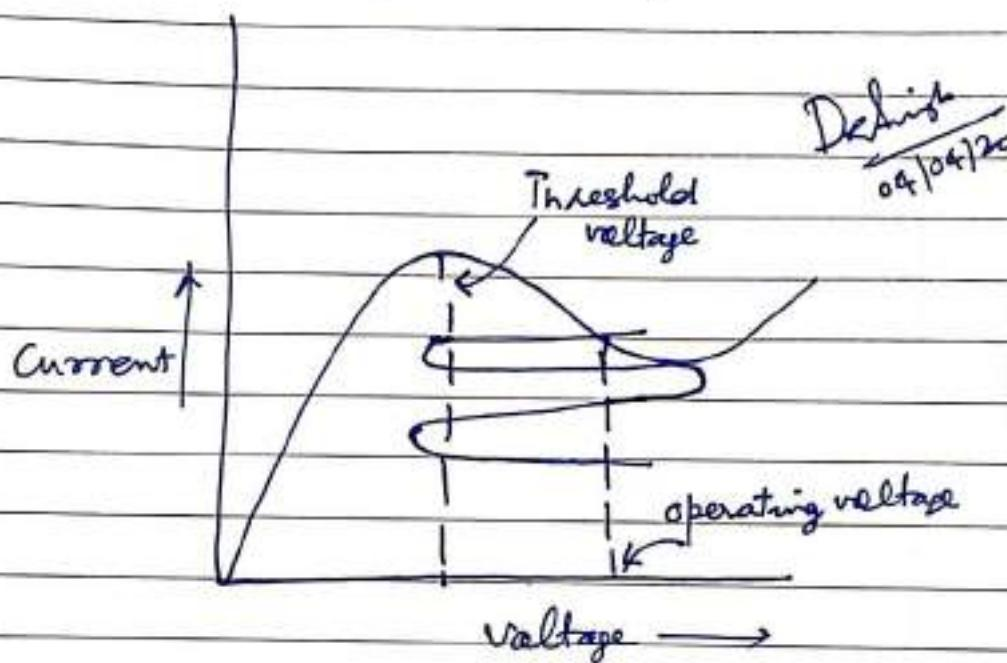

Fig. 9 V-I characteristics of LSA diode
- ① As shown in Fig. 9, the applied voltage is well